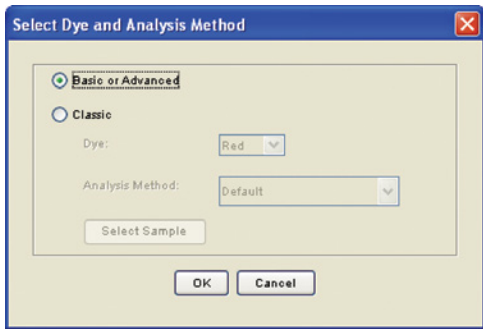

Figure 15. The 'Select Dye and Analysis Method' window.
4. Select **Basic or Advanced** (Figure 15). The type of analysis method selected must match the type of analysis method created earlier. Select **OK**.